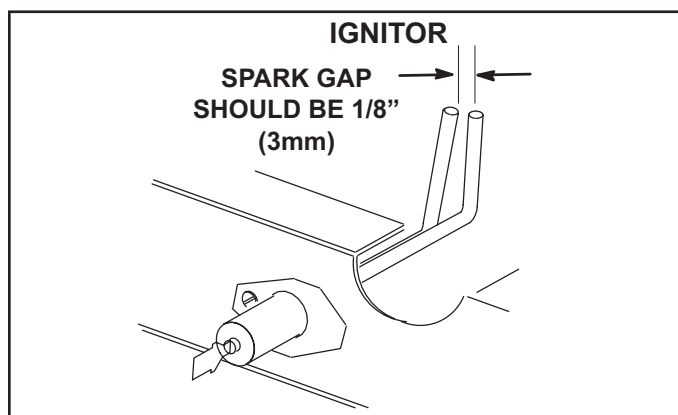

FIGURE 27
- 4 - Locate the ignitor under the left burners. Check ignitor spark gap with appropriately sized twist drills or feeler gauges. See FIGURE 27.